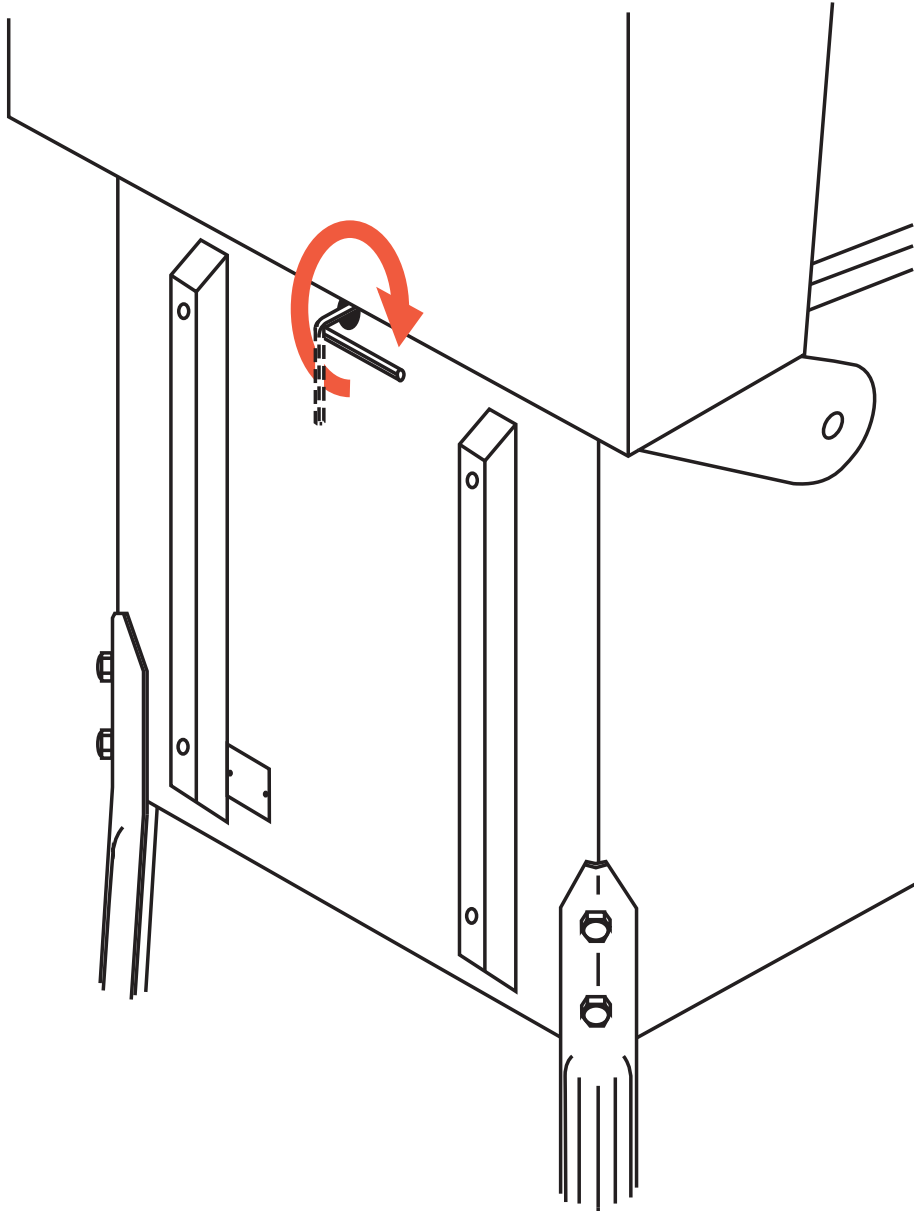

Figure A8. Locking the backbox in the upright position.
**8)** Locate the “L”-shaped, 5/16” hex key for the backbox Roto-Lock in the loose parts. Insert it into the hole at the base of the backbox and turn it a full 270 degrees CW (see figure A8).